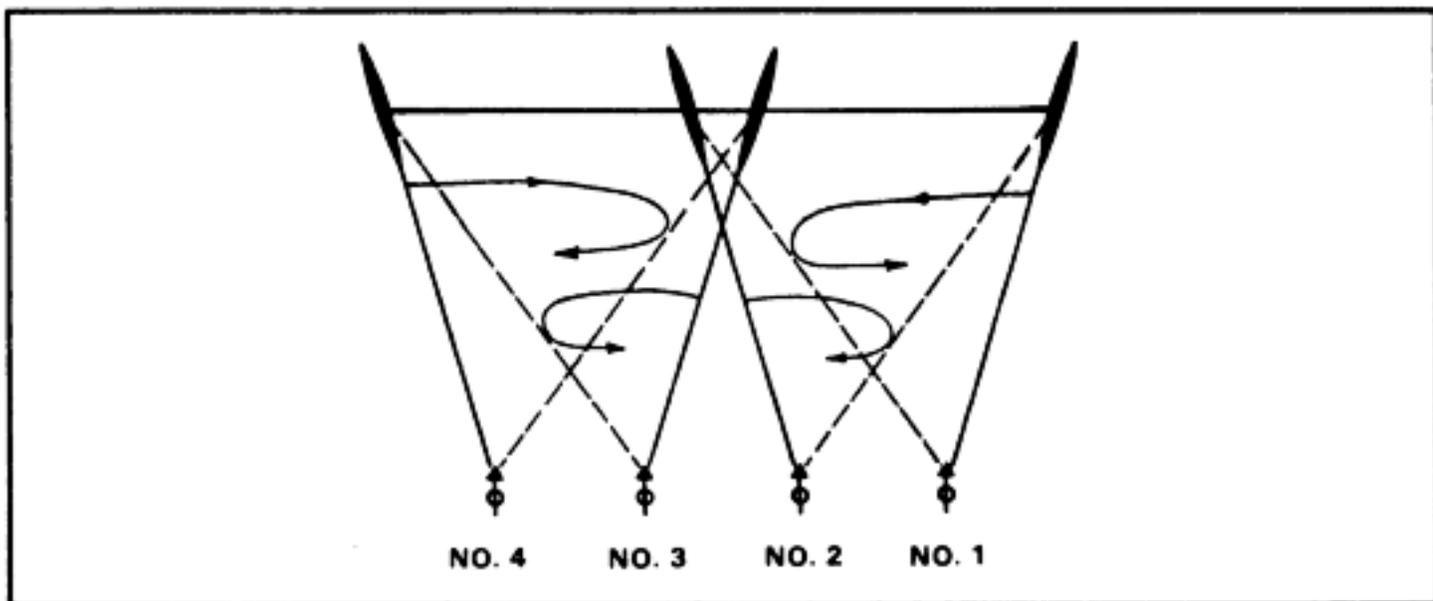

Figure 6-14. Pair of MK 19s engaging each half of a target 100 to 200 mils in width.
- Each pair of MK 19s engages half the target (Figure 6-14).